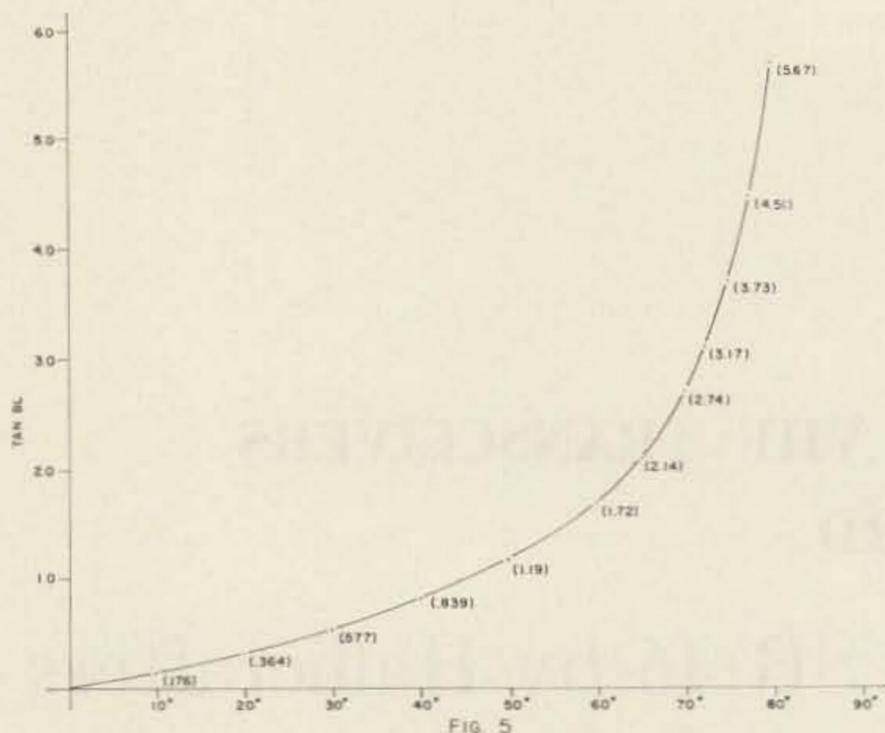

Fig. 5. $\tan \beta l$ vs angle (tangents of angles).
Refer to Fig. 5, the \tan of 40.2° is 0.85
Step 3—Refer to Fig. 5 and determine what angle the $\tan \beta l$ is equal to, for a value of 1.91. In this case, it is about 62.5° . Now we can determine the element we are really interested in—the required length, l .
Step 4—Go to Table 1 and obtain the value for β . In this case, it is 4.39 degrees/inch. We determined in Step (3) that the product of βl is equal to 62.5° , so by simple substitution we can find l .
Step 2—Refer to Fig. 5. The \tan for an angle of 52.7° is 1.33
Refer to Fig. 5; this represents an angle of 42°.